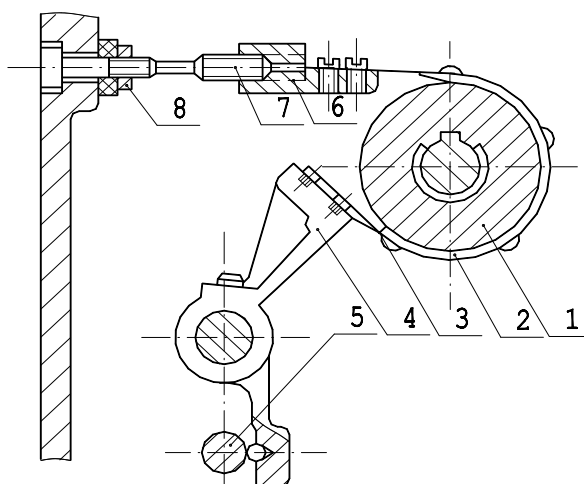

Fig.14 Braking Mechanism of Spindle
Brake wheel 1 (Fig. 14) is mounted on the shaft IV. The brake band (2) around the brake wheel is fixed by the screw (3) to the adjustable pull rods (4) and (6). When the control shaft (5) is axially traveling, the swell part of the control shaft 5 makes the rod (4) actuates the band (2) to tighten and loosen. When shift the levers (7) in Fig. 7 to the position "Stop", the spindle shall stop immediately. If not, the brake ban (2) must be tightened by means of the screw (7) and the nut (8). When tightening, check whether the brake ban is adequately loosened when the lever (7) in Fig 7 is shifted to the position "stop". If not so, the band should be loosened lightly by the screw (7) and the nut (8).